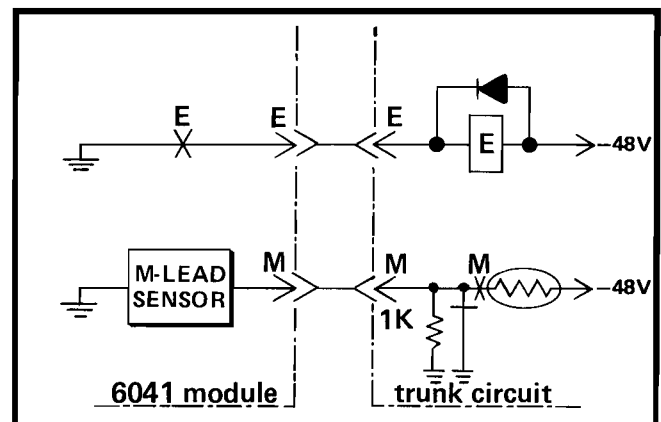

figure 2. Type I interface
1.04 The 6041 is designed to operate in the DX1 mode, in which M-lead signals are input to and E-lead signals are output from the module. Either Type I or Type II E&M-lead interfacing may be switch-selected. In general, Type I interfacing is used with electromechanical switching systems, while Type II interfacing is used in electronic switching environments. Figures 2 and 3 in section 2 of this Practice show Type I and Type II E&M-lead interfacing arrangements, respectively.
2.02 As stated above, the electronic DX set in the 6041 is designed to operate in the DX1 mode, in which M-lead signals are input to and E-lead signals are output from the module. Either Type I or Type II E&M-lead interfacing may be switch-selected (see figures 2 and 3). In general, Type I interfacing is used with electromechanical switching systems while Type II interfacing is used in electronic switching environments. With Type I interfacing, incoming and outgoing signaling consists of the presence of either ground, battery, or an open condition on the E and M leads. With Type II operation, incoming signaling consists of a contact closure between the M lead and the MB/SB (M-lead-battery/signal-battery) lead, while outgoing signaling consists of a contact closure between the E lead and the EG/SG (E-lead-ground/signal-ground) lead. Type II E&M-lead interfacing permits direct interconnection of trunk circuits or signaling units without intermediate signaling-lead conversion (which is required with conventional Type I E&M-lead interfacing).